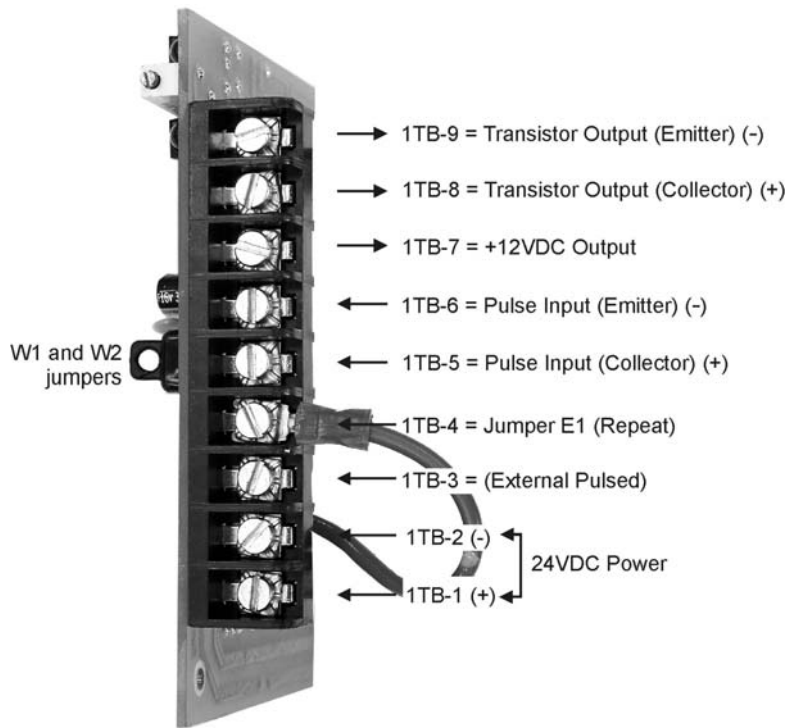

Figure 1—Field wiring of CD20 (115VAC) assembly
Use the following steps to install field wiring to the CD20-115VAC (Figure 1):
3. The on-board jumper E1 selects the source of “start” pulses for the CD20 control logic. For external pulsed mode, connect jumper E1 to 1TB-3. For the repeat mode (time-proportional sampling), connect jumper E1 to 1TB-4, as shown in Figure 1.
- Transformer T1 converts the 115VAC input to 14 VRMS secondary power when primary jumpers W1 and W2 are installed. (These jumpers are specific to the power board; they are not the control card jumpers shown in Figures 1 and 2.)